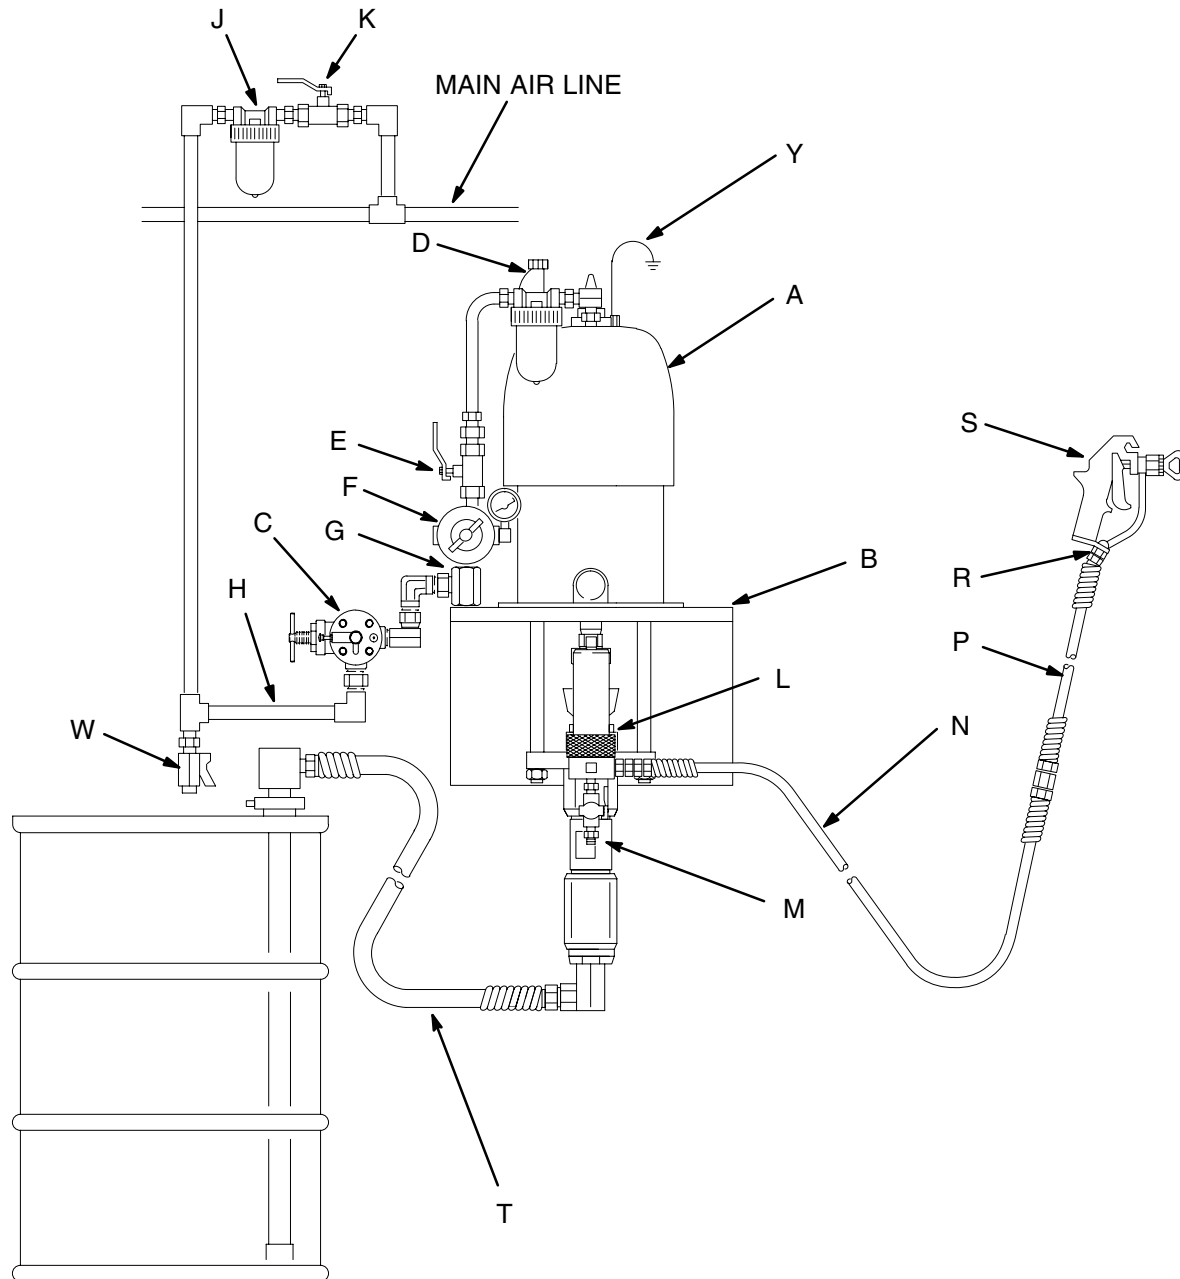

Fig. 3
Fig. 3 is only a guide for selecting and installing system components and accessories. Contact your Graco distributor for assistance in designing a system to suit your particular needs.
Mount the pump (A) to suit the type of installation planned. Fig. 3 illustrates a wall mount system. Pump dimensions and the mounting hole layout are shown on page 33.
Install the following accessories in the locations shown in Fig. 3, using adapters as necessary:
- **A fluid filter (L)** with a 60 mesh (250 micron) stainless steel element, to filter particles from the fluid as it leaves the pump.
- **A fluid drain valve (M)**, which is required in your system, helps relieve fluid pressure in the hose and gun (see the **WARNING** at left).
- **A gun (S)** dispenses the fluid. The gun shown in Fig. 3 is an airless spray gun for light to medium viscosity fluids.
- **A gun swivel (R)** allows freer gun movement.
- **A suction kit (T)** allows the pump to draw fluid from a supply container.
1. See Fig. 3. Connect the suction kit (T) to the pump's fluid inlet. Place the tube into the fluid supply.